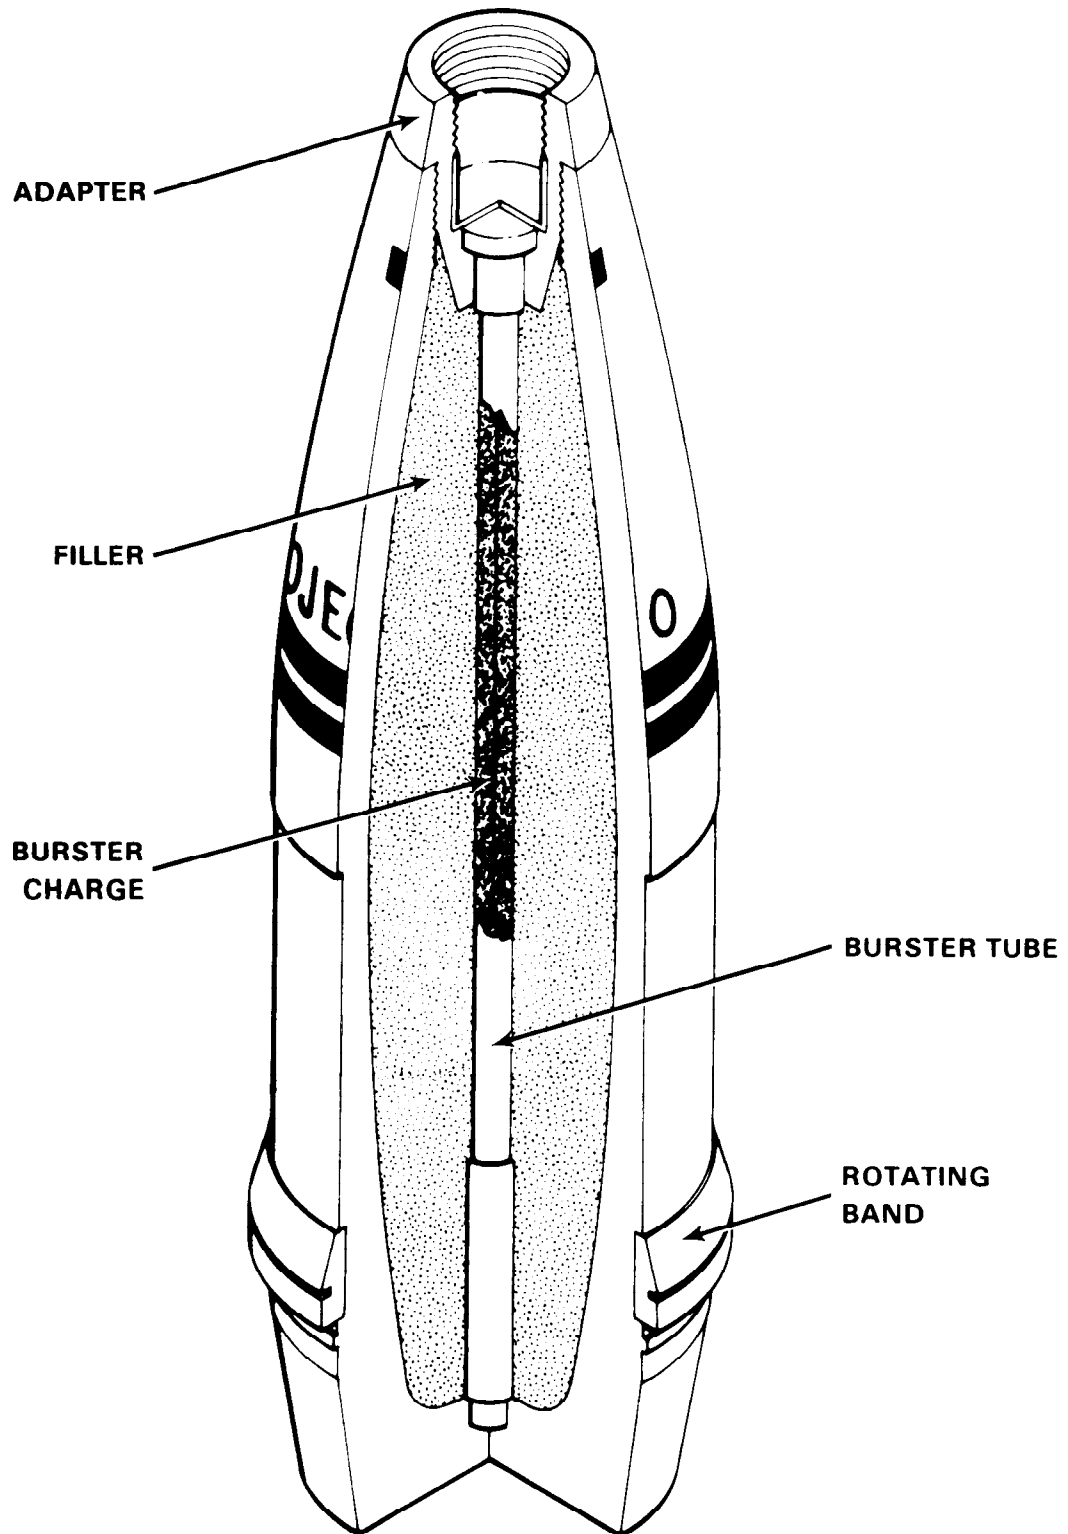

Figure 8-4.2. M110 HD 155mm Persistent Gas Projectile
8-4.2.2. Description. The M110 projectile, Figure 8-4.2, consists of a forged steel body containing a filler of 9.70 pounds of distilled mustard gas (HD) and a M6 burster. The burster consists of 0.83 pound of tetrytol in a thin steel or aluminum tube. The tetrytol filled tube is housed in the M1 burster casing which extends the full length of the projectile. The burster casing is assembled after the projectile cavity is filled with the HD agent. A threaded adapter, press fitted to the forward end of the burster casing, seals the nose end of the projectile. The projectile is issued unfuzed, with an eyebolt lifting plug threaded in the fuze adapter. A PD fuze is normally used with this projectile. A rotating band encircles the projectile body near the base and is protected by a grommet which is removed before loading the projectile in the weapon.